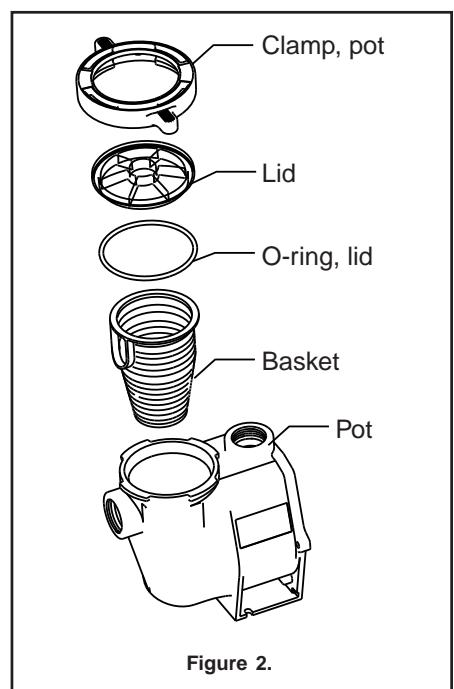

Figure 2.
7. Reinstall the lid by placing the clamp and the lid on the pot; see Figure 2.